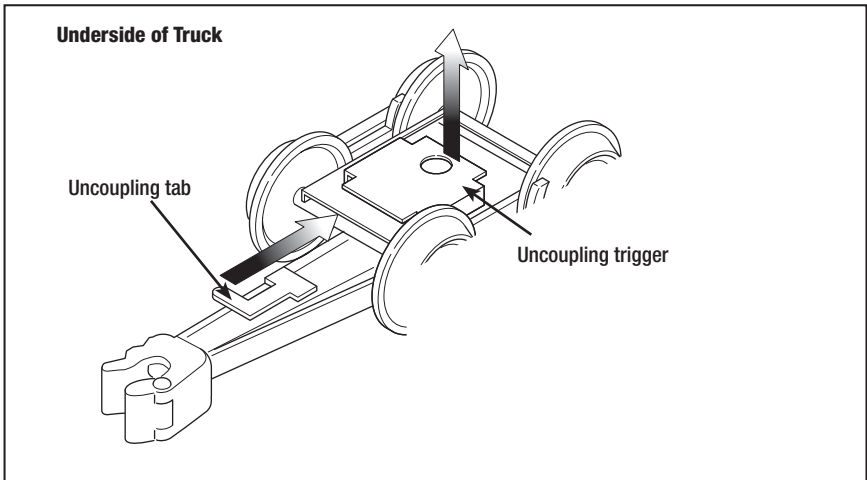

Figure 1. Uncoupling tab and trigger locations
**T**o operate the couplers by hand, slide the uncoupling tab on the side of the coupler shaft back towards the car. Do not push down on the tab. To operate the couplers with a Remote-Control Track section (available separately, 6-65530 for O gauge; 6-12746 or 6-65149 for O-27; or 6-12020 for FasTrack layouts), simply position the uncoupling trigger over the magnetic disc on the Remote-Control Track section and press UNCOUPLE on the controller. Refer to Figure 1 for the locations of the uncoupling tab and trigger.